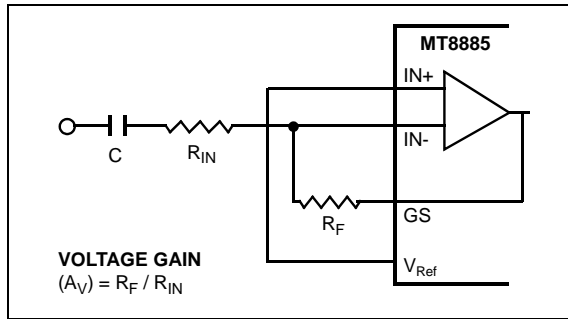

Figure 3 - Single-Ended Input Configuration
The input arrangement of the MT8885 provides a differential-input operational amplifier as well as a bias source ( $V_{Ref}$ ), which is used to bias the inputs at  $V_{DD}/2$ . Provision is made for connection of a feedback resistor to the op-amp output (GS) for gain adjustment. In a single-ended configuration, the input pins are connected as shown in Figure 3.